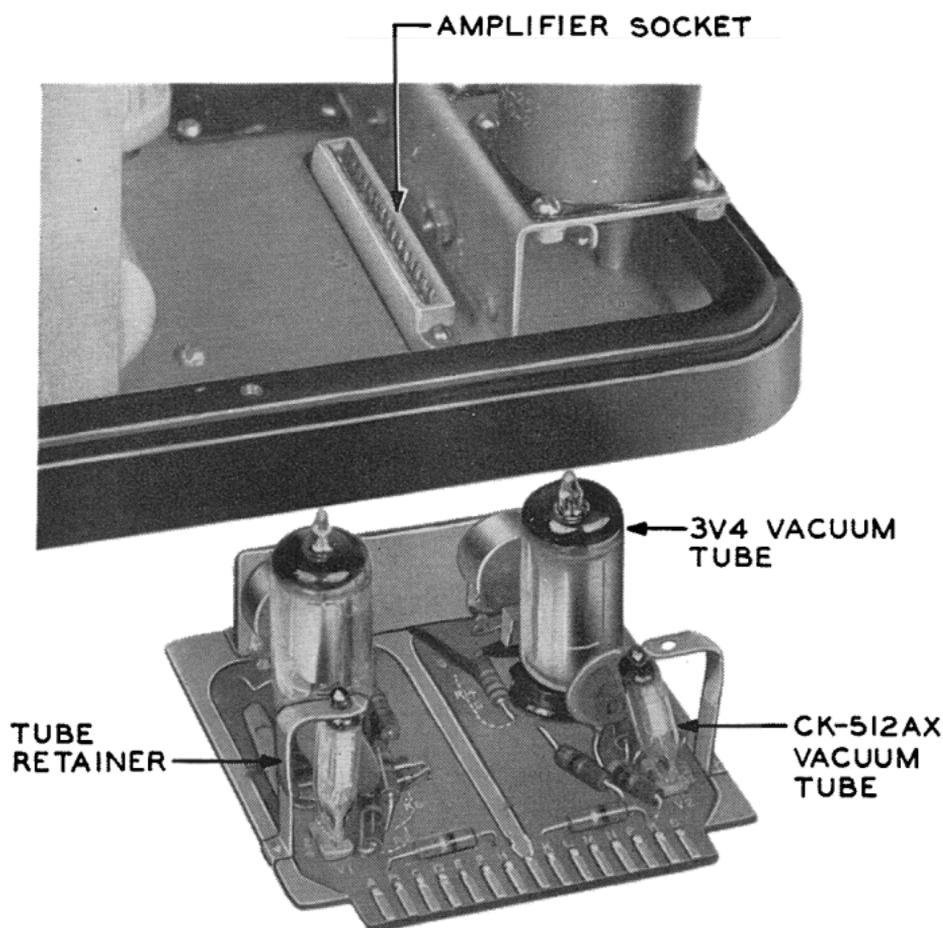

Fig. 5—KS-14900 Amplifier
- (6) If changing the amplifier clears the trouble, tubes from the changed amplifier should be replaced, one by one, with those of the serviceable amplifier to determine which are bad, if any. Each CK512AX subminiature tube is held in place by a retainer which must be lifted to clear the top of the tubes and bent back slightly to facilitate the removal of tubes, see Fig. 5.
(7) Another procedure could follow along these lines: If amplification seems to be low in one circuit only, either the receiving or the transmitting, tubes can be replaced in the suspected circuit to determine which is bad.
(8) In reinserting the CK512AX subminiature tubes, orient them so that the red mark on the tube base faces the top of the card and the dot near the top end of the socket.